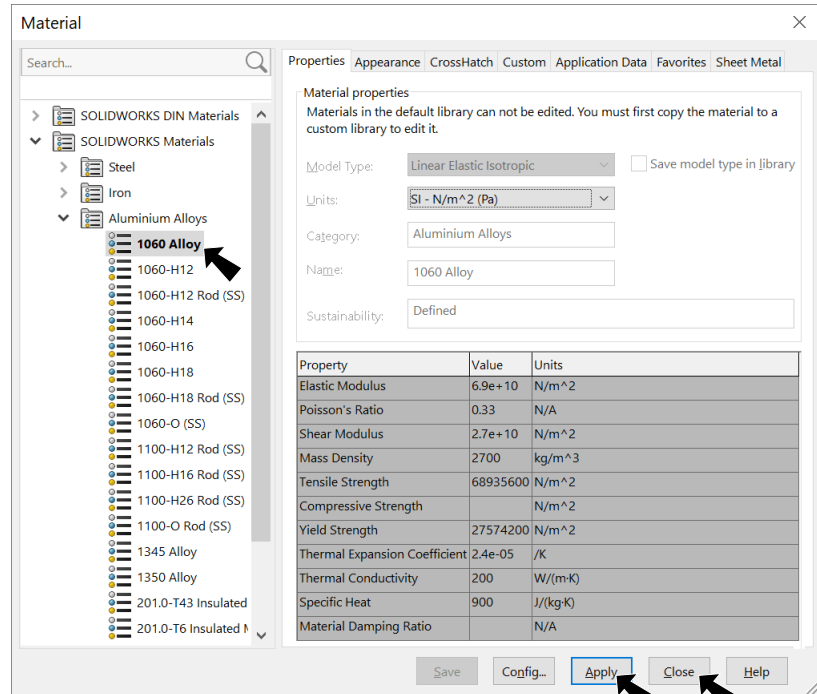

Fig. 11
Step 2. Expand **Aluminum Alloys** in the material tree and select **1060 Alloy**, Fig. 11. Click **Apply** and **Close**.